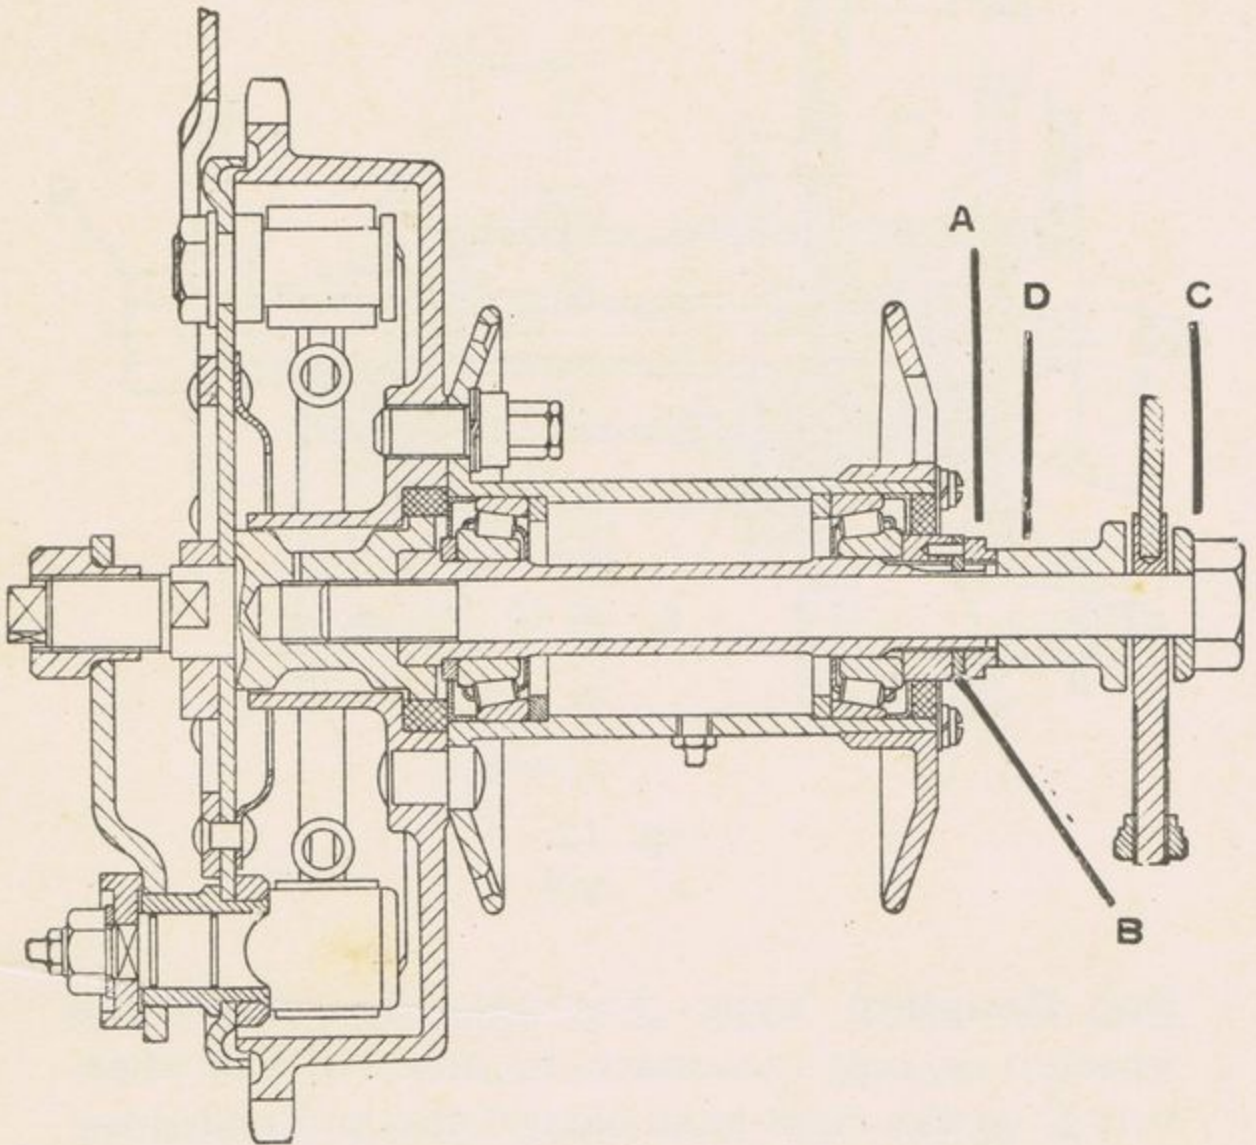

Fig. 13.
**Three Peg Coupling Type (Fig. 13).** To remove the wheel, first detach the three retaining bolts round the hub centre. Then remove spindle C and distance piece D, and withdraw the hub to the right from the pegs. The wheel can then be taken out rearwards. Adjustment of the wheel bearing is carried out as above.